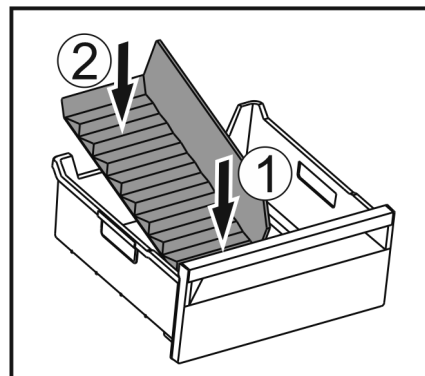

Fig. 150
- ▶ Insert the front part of the ice compartment divider. *Fig. 150 (1)*
- ▶ Lower the rear part of the ice compartment divider to the drawer bottom. *Fig. 150 (2)*